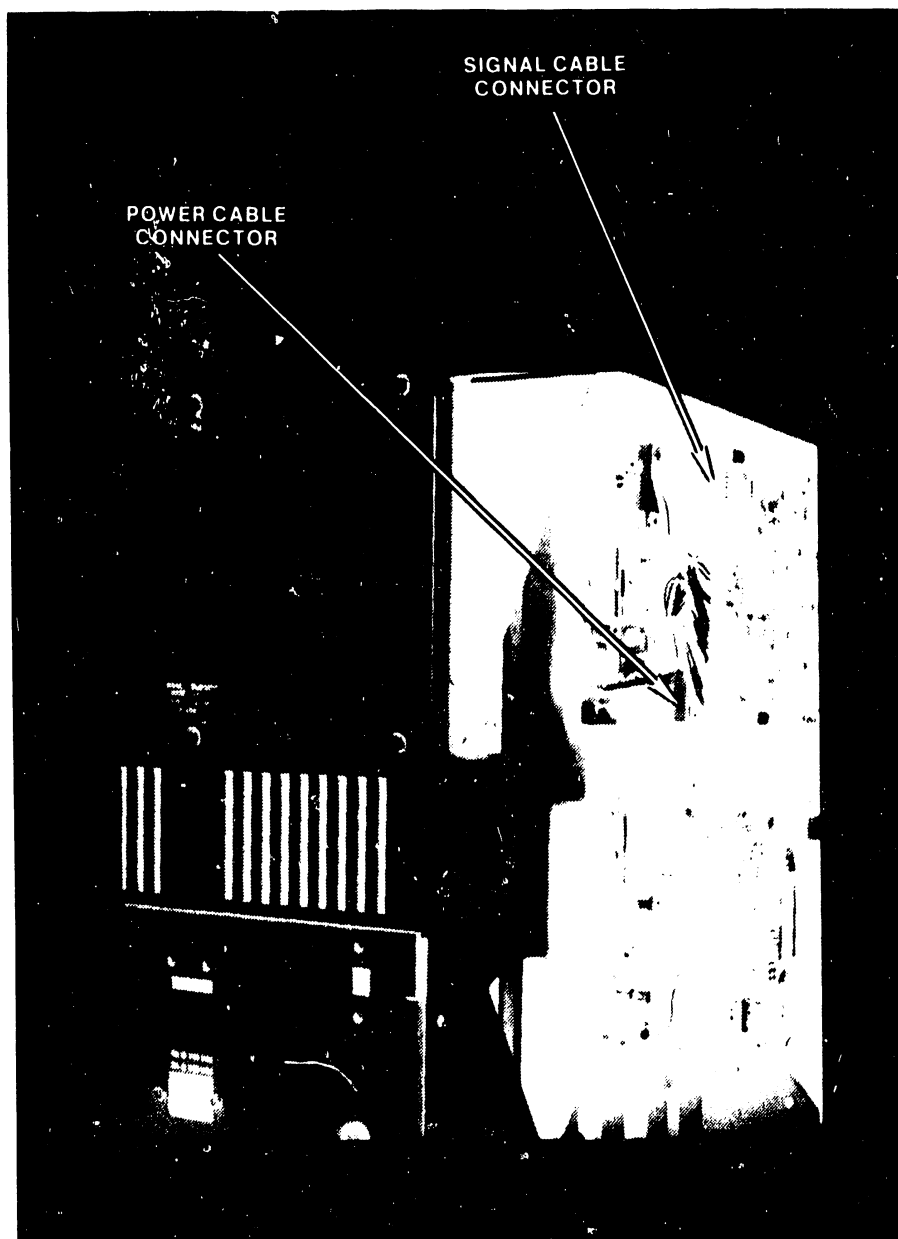

FIGURE 3 DISK DRIVE POWER AND SIGNAL CABLE CONNECTORS
- c. Disconnect signal and power cables of the disk drive (See Figure 3).
- k. Insert new signal cable on the rear connector (see Figure 3) of the top disk drive (archive disk drive), and insert other end in the CPU board connector J2 on the right side of the board (see Figure 8).